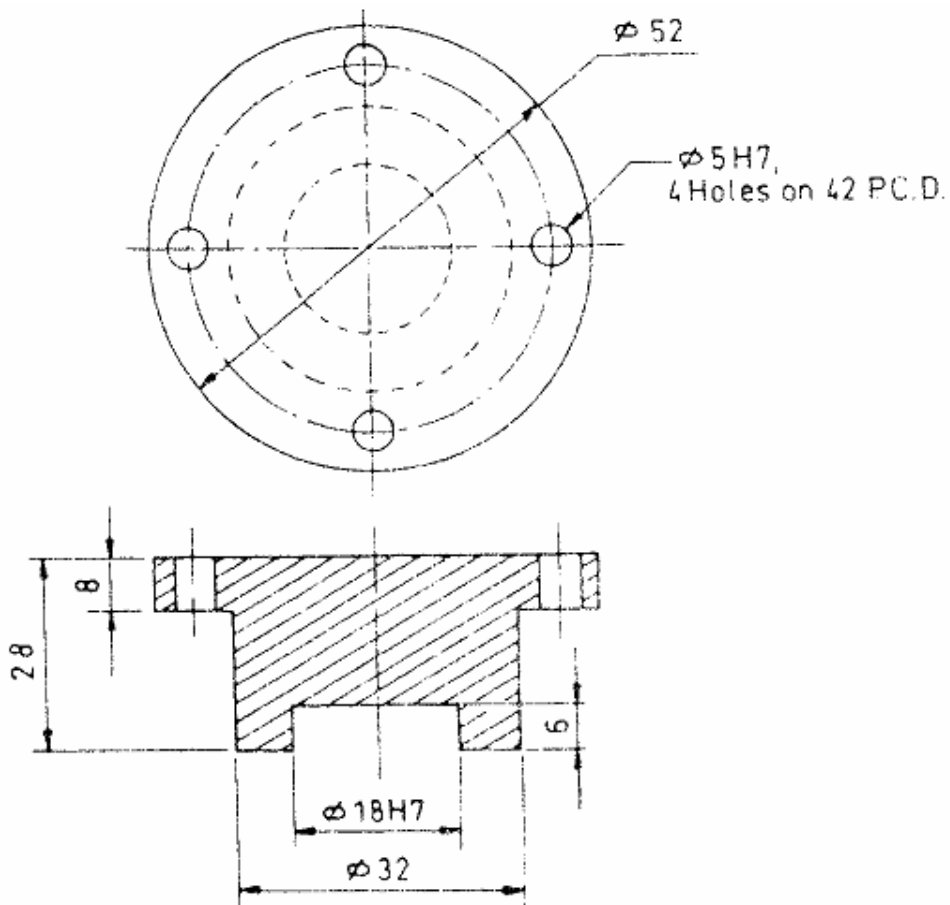

Figure-1
- Q.5 (a)** Design and draw drilling jig for drilling the holes in the component shown in figure-1. **14**